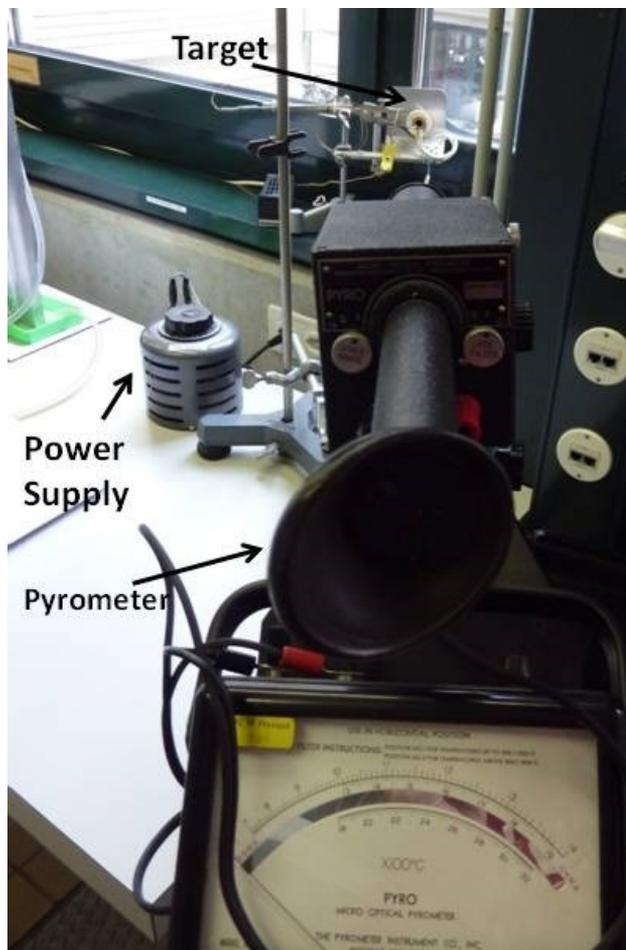

Fig 12: Pyrometer
**Pyrometer:** Heat the target using the power supply (do not exceed 70 V ). Adjust the temperature of the pyrometer in order to make the filament disappear in front of the target. Take measurements between 700  $^{\circ}\text{C}$  and 1000  $^{\circ}\text{C}$ . (Fig. 12)